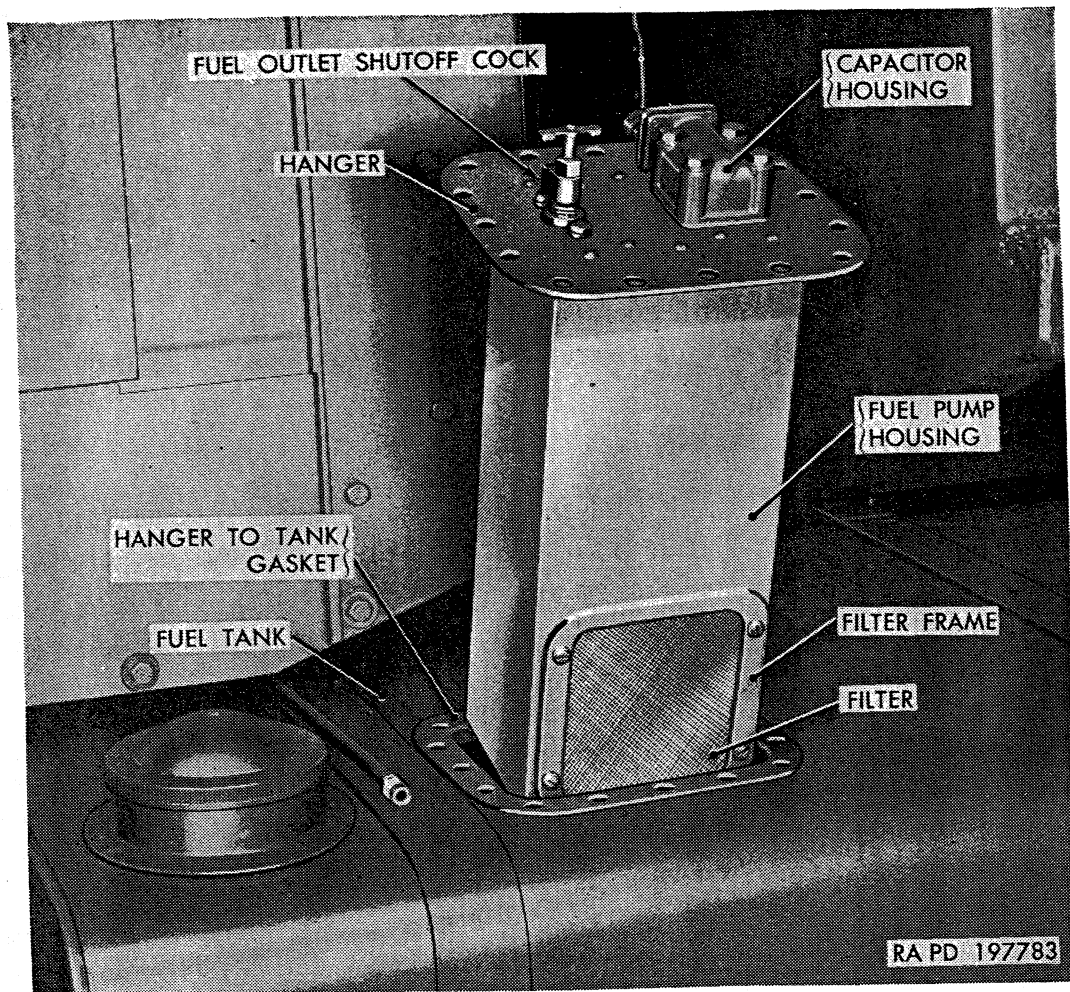

Figure 130. Fuel pump, hanger, and housing removed, exposing fuel filters.
*b. Cleaning Fuel Pump Filters (fig. 130).*
- (1) Disconnect fuel line from fuel outlet fitting.
- (2) Remove 16 cap screws and washers attaching fuel pump hanger to tank.
- (3) Lift fuel pump hanger with pump and housing as a unit from fuel tank.
- (4) Remove four screws and lockwashers attaching each filter frame assembly to the fuel pump housing.